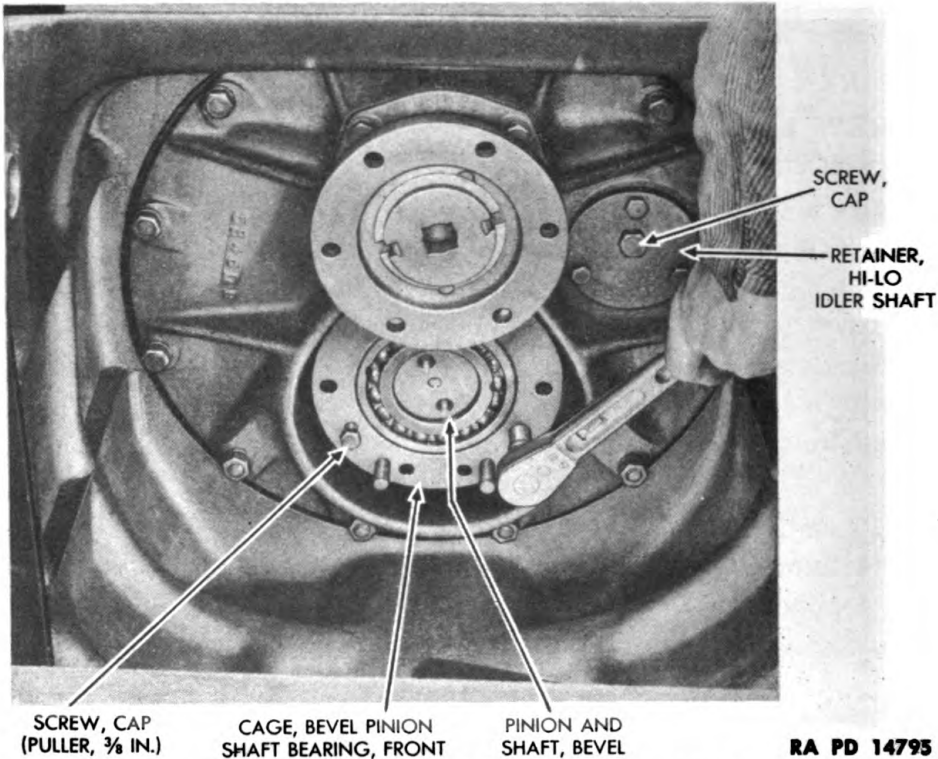

Figure 35 — Front Bevel Pinion Shaft Bearing Cage Removal
(11) REMOVE FRONT BEVEL PINION SHAFT BEARING CAGE (fig. 35).
(12) DISCONNECT IDLER SHAFT RETAINER FROM IDLER SHAFT (fig. 35).